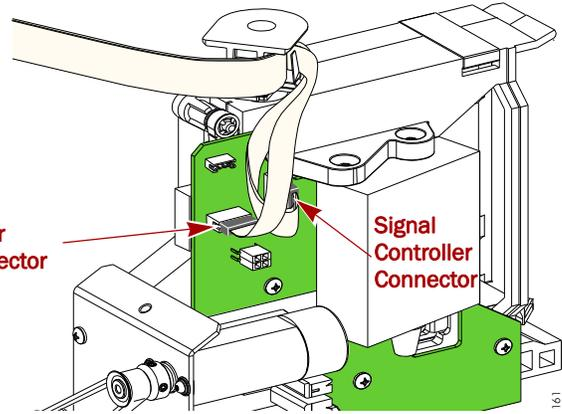

Figure 5. Front View of Shuttle Cables
1. Disconnect the **cables** from Shuttle (Figure 5):